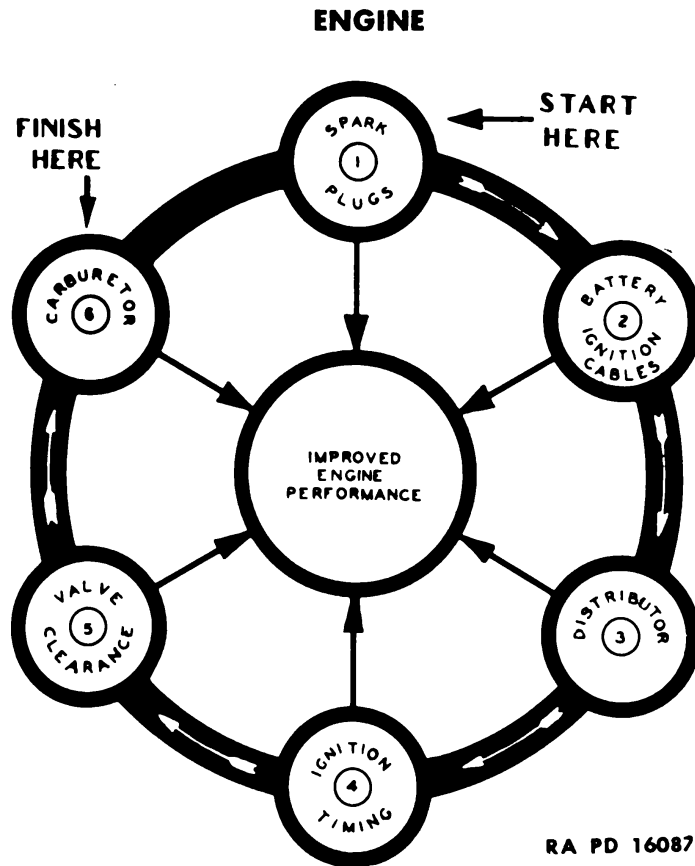

Figure 127—Engine Tune-Up Cycle Chart
a. The tune-up cycle is an inspection and adjustment procedure for each individual unit in the ignition and fuel systems. Periodic tune-up cycle chart as illustrated in Fig. 127 should be followed if satisfactory performance and continuous operation are to be obtained. Satisfactory results from engine tune-up operations cannot be expected if a systematic procedure is not adhered to. Performing tune-up operations in the order given, and carefully following factory-recommended clearances and specifications, satisfactory results will be obtained. In order to satisfactorily perform all the following operations, regular tune-up equipment, such as compression gauge, vacuum gauge, voltmeter, ammeter, timing light, etc., are necessary.
(1) Remove ignition shield.
(2) Turn ignition switch "off," pull hand throttle all the way out. Remove all spark plugs from engine
(3) Insert compression gauge in spark plug hole in one engine and crank engine a few turns with starting motor. Note highest compression gauge reading while engine is being cranked. Perform same operation at each cylinder and record reading.
(4) Compression reading of approximately 110 pounds per cylinder is desirable. A variation within approximately five (5) pounds limit is normal. If compression is too low, the cause (either piston rings, valves, or cylinder head gasket) should be checked and corrected. Loss of compression through piston rings can be detected by pouring a liberal quantity of oil through spark plug hole on top of piston, allow
c. Engine Tune-up Procedure (Fig. 127)